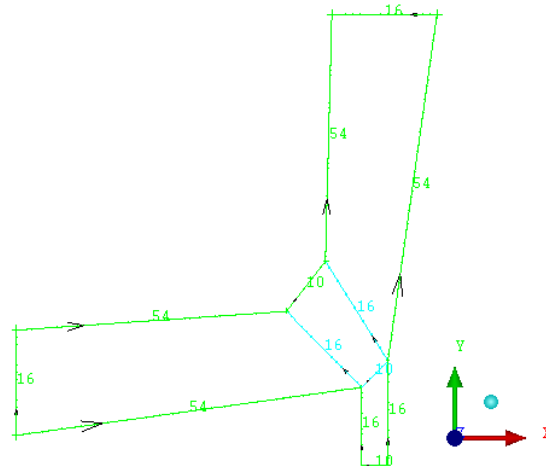

Figure 16: Bunching the Edges
3. See the distribution of grid points along the edges (Figure 16).